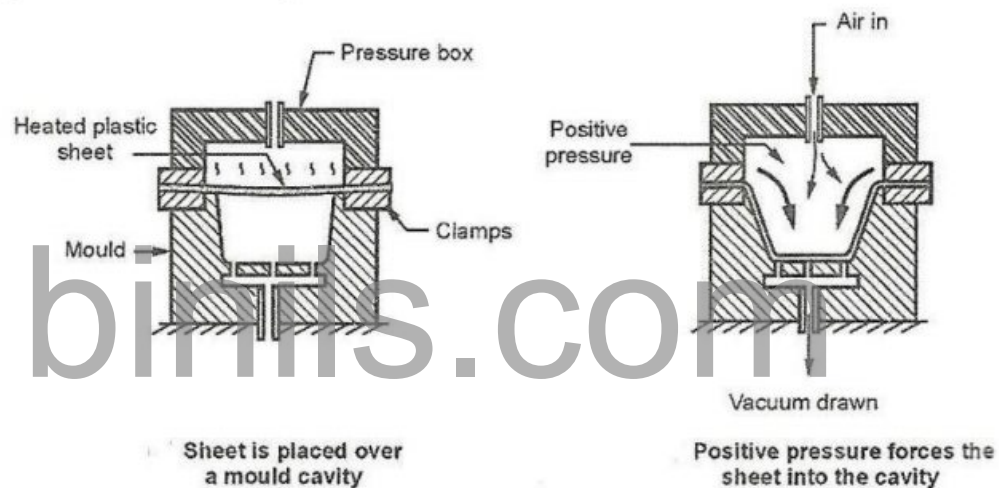

Figure 5.9 Pressure Thermoforming
- Vent holes are provided in the mould to exhaust the trapped air. The forming portion of the sequence is shown in Figure 5.9.